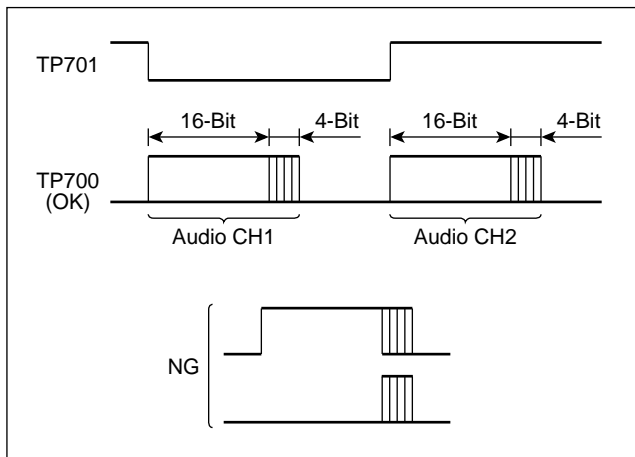

Figure 2. Waveform of CH1/CH2 Offset Level Adjustment
3. Adjust so that audio CH1 part of the waveform at TP700 makes the same waveform to the Figure 2 (left side).
7. Adjust so that audio CH2 part of the waveform at TP700 makes the same waveform to the Figure 2 (right side).